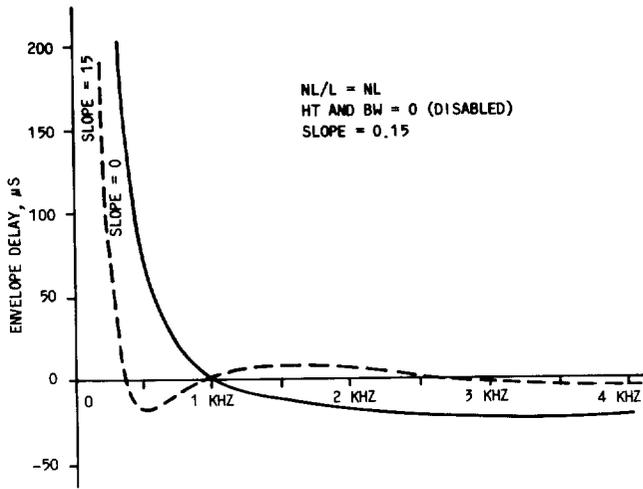

Fig. 12—Relative Envelope Delay Distortion of the SF Signaling/4-4 Wire Repeater, Nonloaded Cable, Slope Variable
4.03 Figures 12 through 15 give the envelope delay
distortion (EDD). Figure 12 shows the EDD